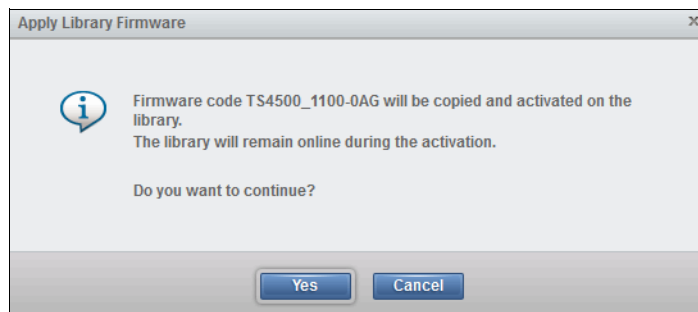

Figure 4-163 Firmware update confirmation
- The Apply Library Firmware window opens. Click **Yes** to continue, as shown in Figure 4-163.